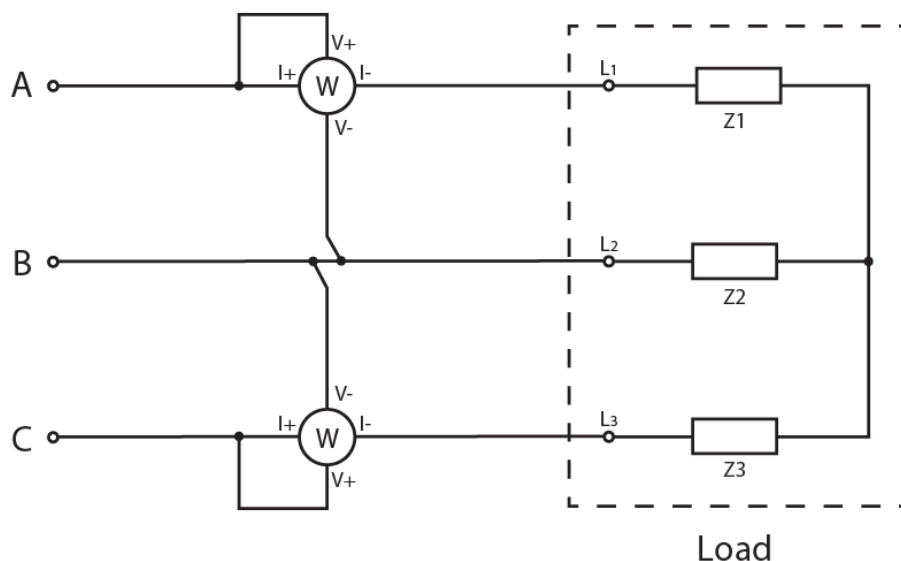

Figure 3
2.3.7 Connect the circuit as shown in Figure 3 below, with the motor windings (three phase load) connected in delta.